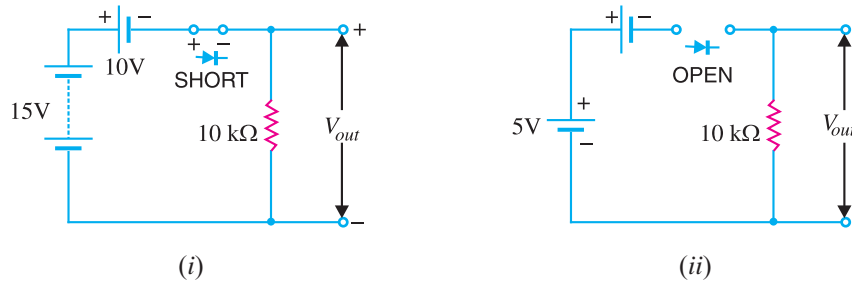

Fig. 18.36
**Solution.** For any value of  $V_{in} > 10\text{V}$ , the ideal diode is forward biased and  $V_{out} = V_{in} - 10$ . For example, at  $V_{in} = 15\text{V}$  [See Fig. 18.36 (i)],  $V_{out} = 15 - 10 = 5\text{V}$ .
For any value of  $V_{in} < 10V$ , the ideal diode is reverse biased. Therefore, circuit current is zero and hence  $V_{out} = 0$ . For example, with  $V_{in} = 5V$  [See Fig. 18.36 (ii)],  $V_{out} = 0$  and  $V_d$  (drop across diode) =  $5V$